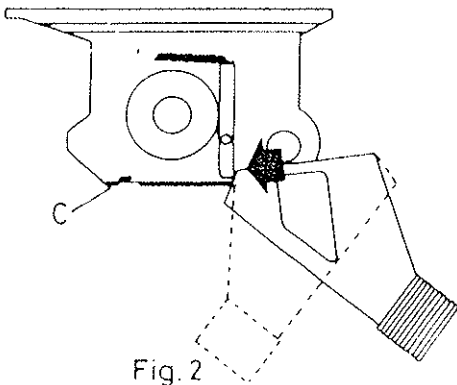

Fig.2
- Second: Wide passage toothed, for normal and big grains (figures 2,3)
TO SET: Fig 2